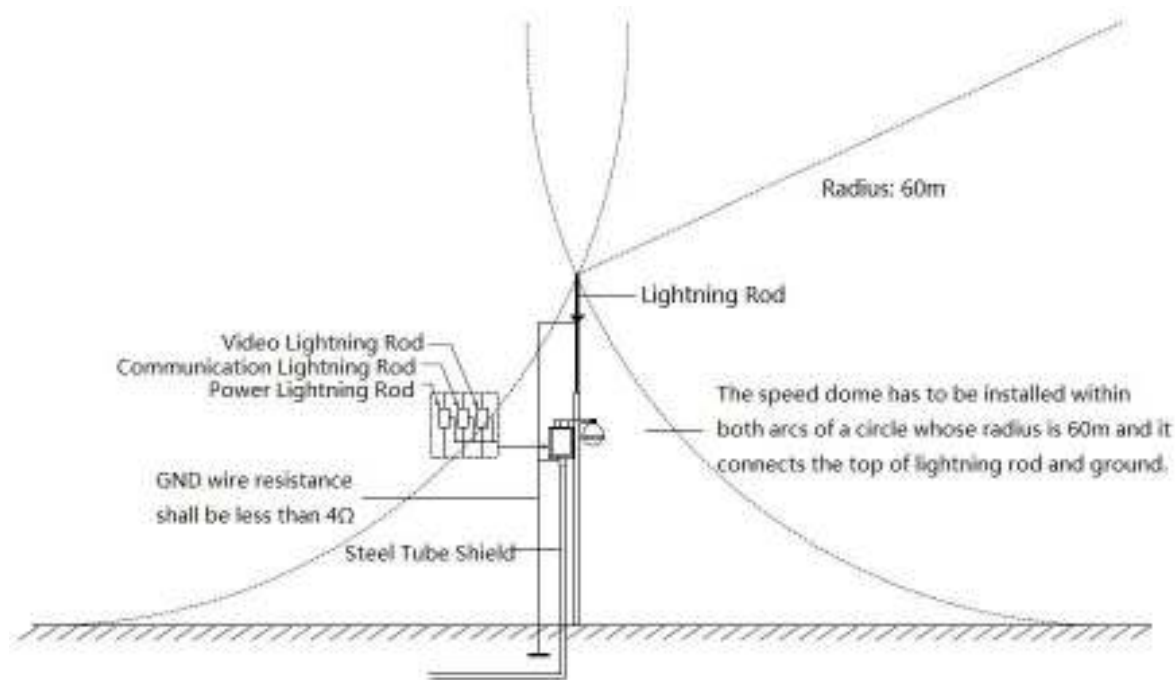

Figure 7-1
- System shall adopt equal-potential wiring. The earth device shall meet anti-jamming and at the same time conforms to your local electrical safety code. The earth device shall not short circuit to N (neutral) line of high voltage power grid or mixed with other wires. When connect the system to the earth alone, the earth resistance shall not be more than 4Ω and earth cable cross-sectional area shall be no less than 25 mm^2 . See Figure 7-1.